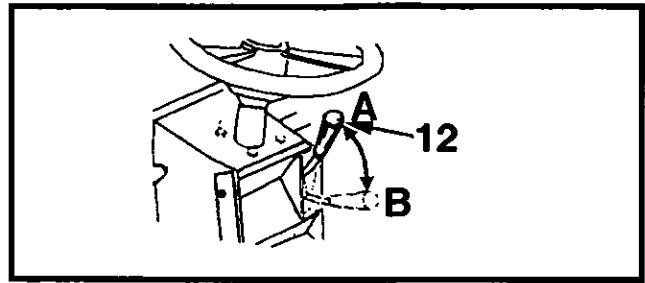

Figure 4-12 Engine Speed Control - Low Idle
3. Position engine speed control to MAXIMUM OPERATING position 'B' (Figure 4-12).